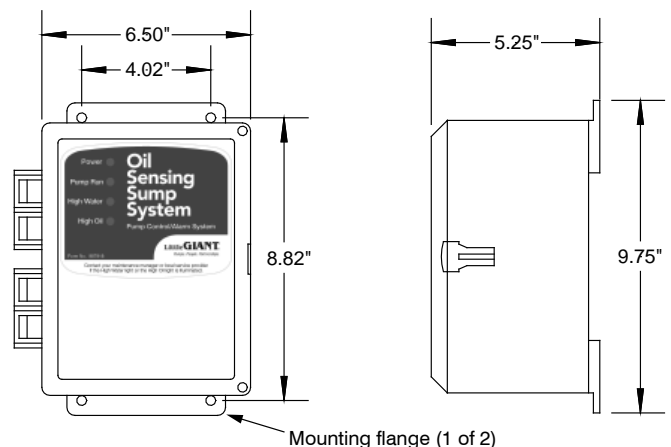

FIGURE 2
2. Attach the 2 mounting flanges (Figure 2) to the control panel enclosure.
POUR UNE POMPE NON SUBMERGÉE (FIGURE 2) :